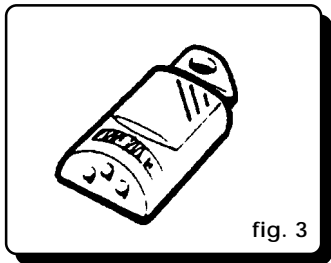
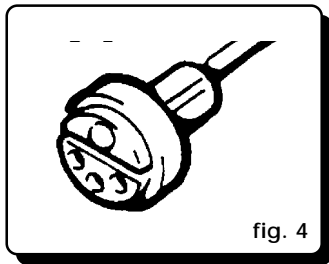

fig. 3
fig. 4
The alarm system can also be armed using the electronic key (See fig. 3). Placing the key on the LED receptacle (See fig. 4) arms the alarm without activating the power locking system. The direction indicator lights will flash twice and the alarm may give two audible tones, (programmable function) generated at the same time to indicate that the system has been armed. Then the LED (see fig. 4) in the passenger compartment will remain on for 30 seconds (pre-alarm time) and
If the alarm system was previously armed using the electronic key, you will have 10 seconds to enter the vehicle before an alarm condition occurs. Therefore you can open the power locking system manually, enter the car and place the electronic key on the receptacle (see fig. 4). If an alarm condition occurs, consult the paragraph "**ALARM AUTO-DIAGNOSTICS**" paragraph.
- 3 Remove used battery (fig. 3).
- 4 Insert the new battery taking care to only touch the sides (not on the contact surfaces with the metal contact and the printed circuit), into the centre compartment with the metal contacts (fig. 4).